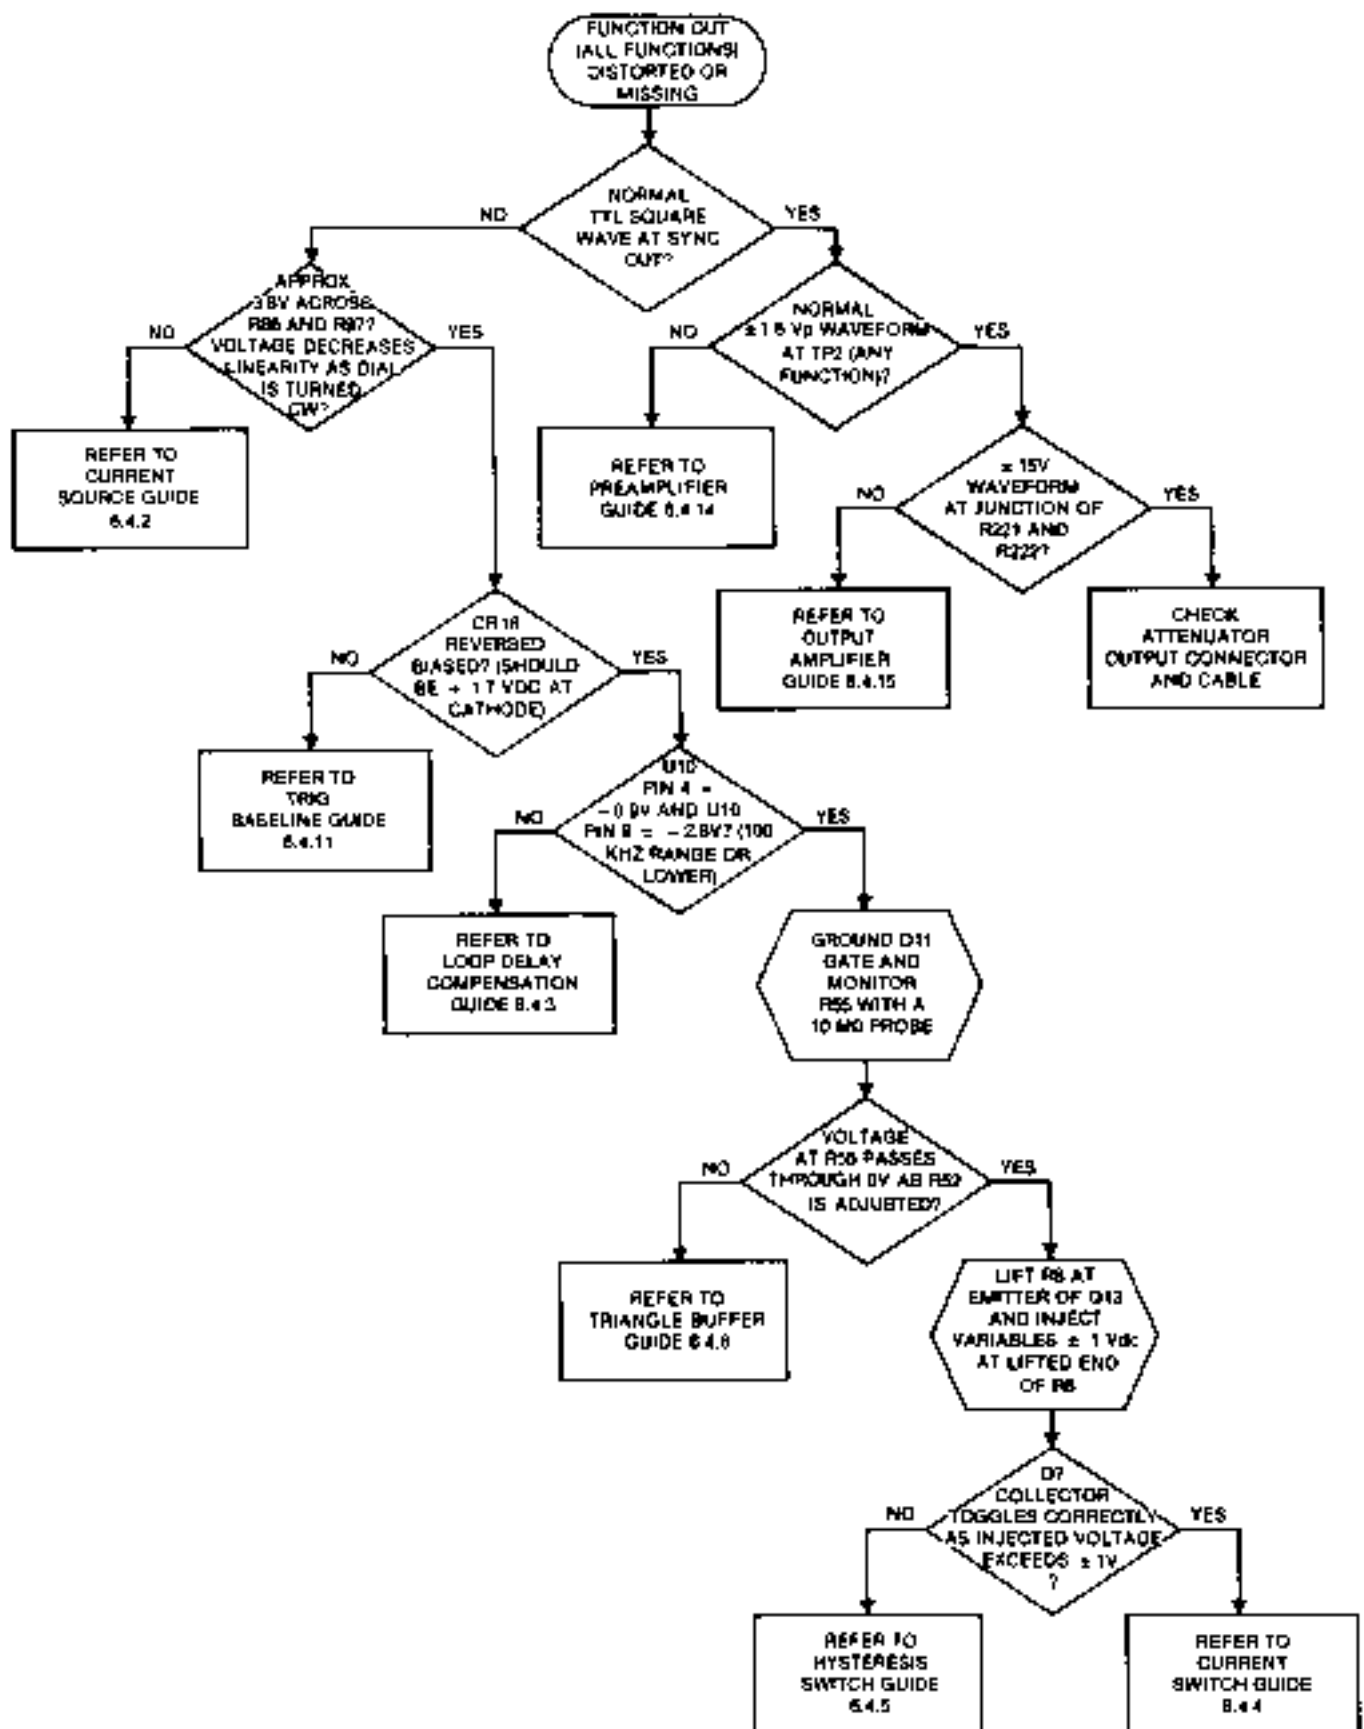

Figure 6-1. Function Output Troubleshooting
4. If the waveform is bad only in 1M or 10M FREQ MULT positions, refer to paragraph 6.4.9. If the delay compensation circuit appears normal, refer to figure 6-1.
6. If none of the above conditions apply, refer to figure 6-1.